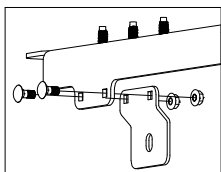

Figure C1
1. **Assemble bed protectors.** Locate the bed protector extension brackets and the passenger and driver side bed protectors. Attach an extension bracket to each bed protector with two 5/16" x 3/4" carriage bolts and flange nuts, as shown in Figure C1. Tighten each nut.